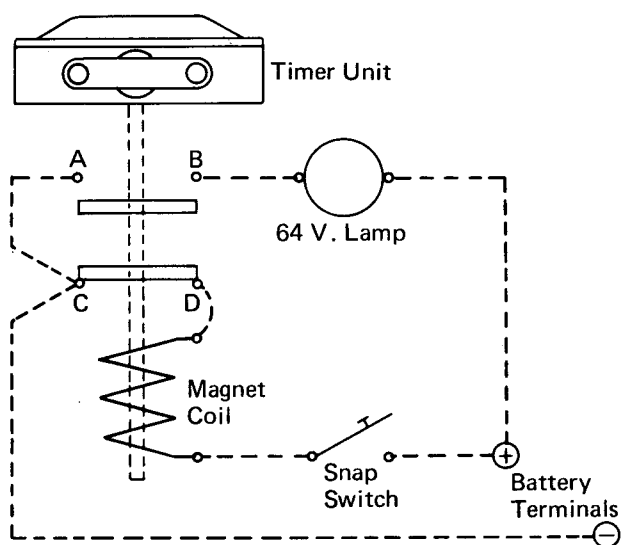

Fig. 6 - Schematic Test Connections
5. Connect a snap switch in series with one terminal of the NC contacts of the microswitch. Connect the other terminal of the NC contact to the magnet coil and connect the other terminal of the snap switch to a positive battery supply, Fig. 6.
6. Connect a low watt 64 volt lamp to one terminal of the NO contact of the microswitch and the other terminal to battery negative. Connect the other terminal of the snap switch (OPEN) to battery positive, Fig. 6.